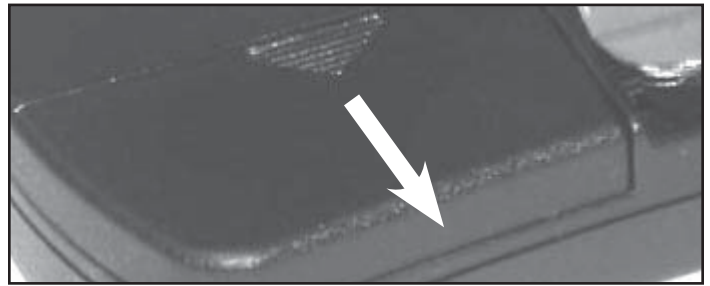

FIG. 8-1 Open battery cover
- To open, gently push straight out on battery cover lock tab as shown. (Fig. 8-1).